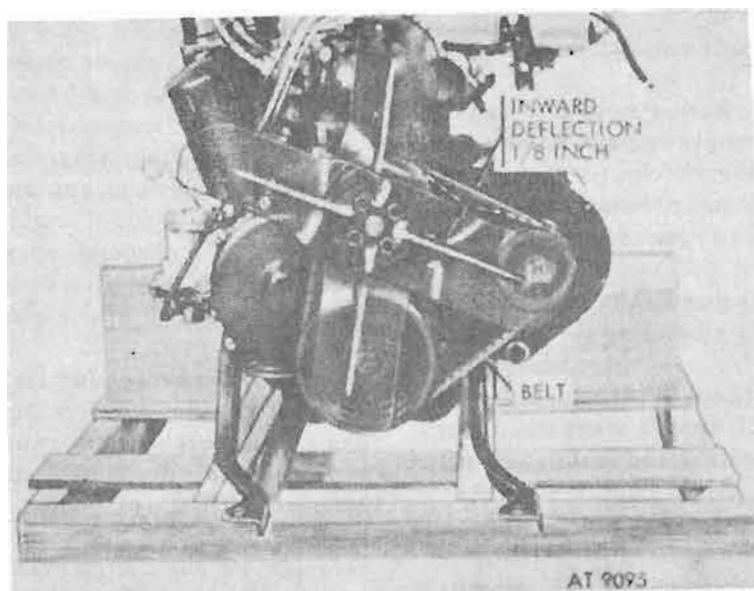

Figure 4-297. Drive belt deflection.
c. *Install Drive Belts.* Place a matched set of drive belts over pulley. Adjust belt tension by moving top end of generator away from cylinder block, as necessary, to obtain correct tension. Tension is correct when light thumb pressure is applied midway between generator and water pump pulley causes 1/8 inch deflection for new belt, and 1/4 inch deflection for used belt. After adjusting belt tension, tighten generator mounting bolts to 47-56 lb.-ft. torque. Tighten self-locking adjusting arm bolt in cylinder block to 47-56 lb.-ft. torque, and bolt on opposite end of adjusting arm bracket to 23-28 lb.-ft. torque. Recheck belt deflection (fig. 4-297).